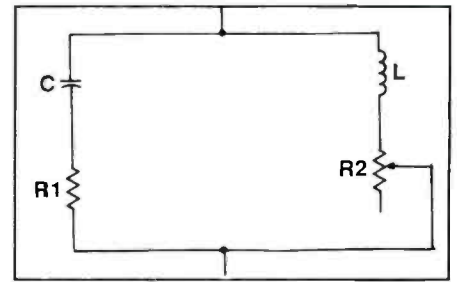

Figure 2. Can you adjust the frequency of this circuit by varying the resistance of R₂?
3. Can you adjust the frequency of the circuit in **Figure 2** by varying the resistance of R₂?
Figure 2. In pulse-width modulation, energy is stored in a magnetic field during the on cycles of the pulse train. During the off cycles, the stored energy provides output power and compensates for any changes in the line voltage or the load.